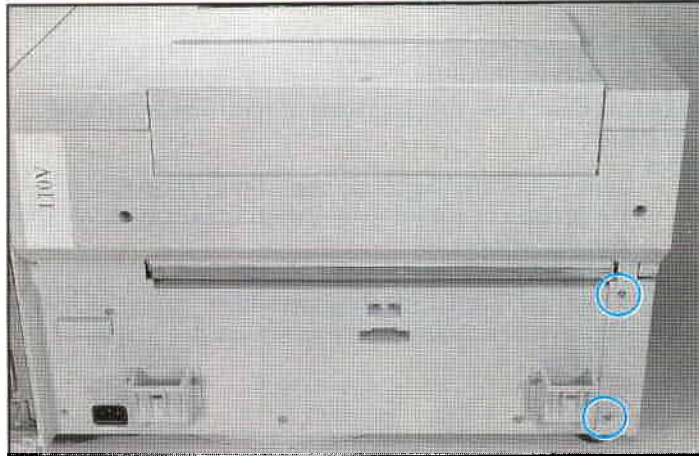

Figure 6-7 Left Side Cover Screws (at rear of printer)
2. From the left rear, remove (2) screws shown in Figure 6-7.
4. Remove (6) M3X8 screws that retain the Lower Rear Cover (these screws are visible in the lower half of Figure 6-7).